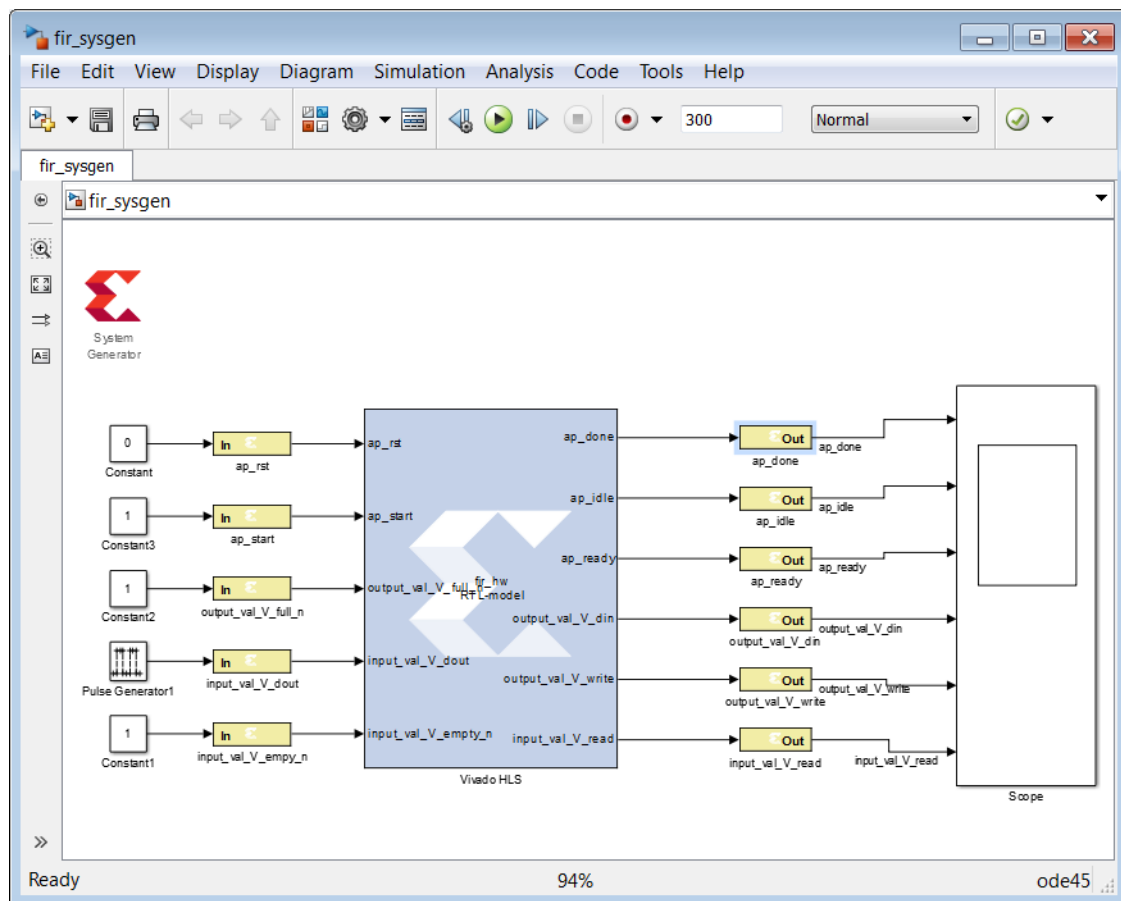

Figure 11-9: Design with All Connections
10. Connect the design I/O ports to the ports on the FIR IP block, as shown in Figure 11-9.